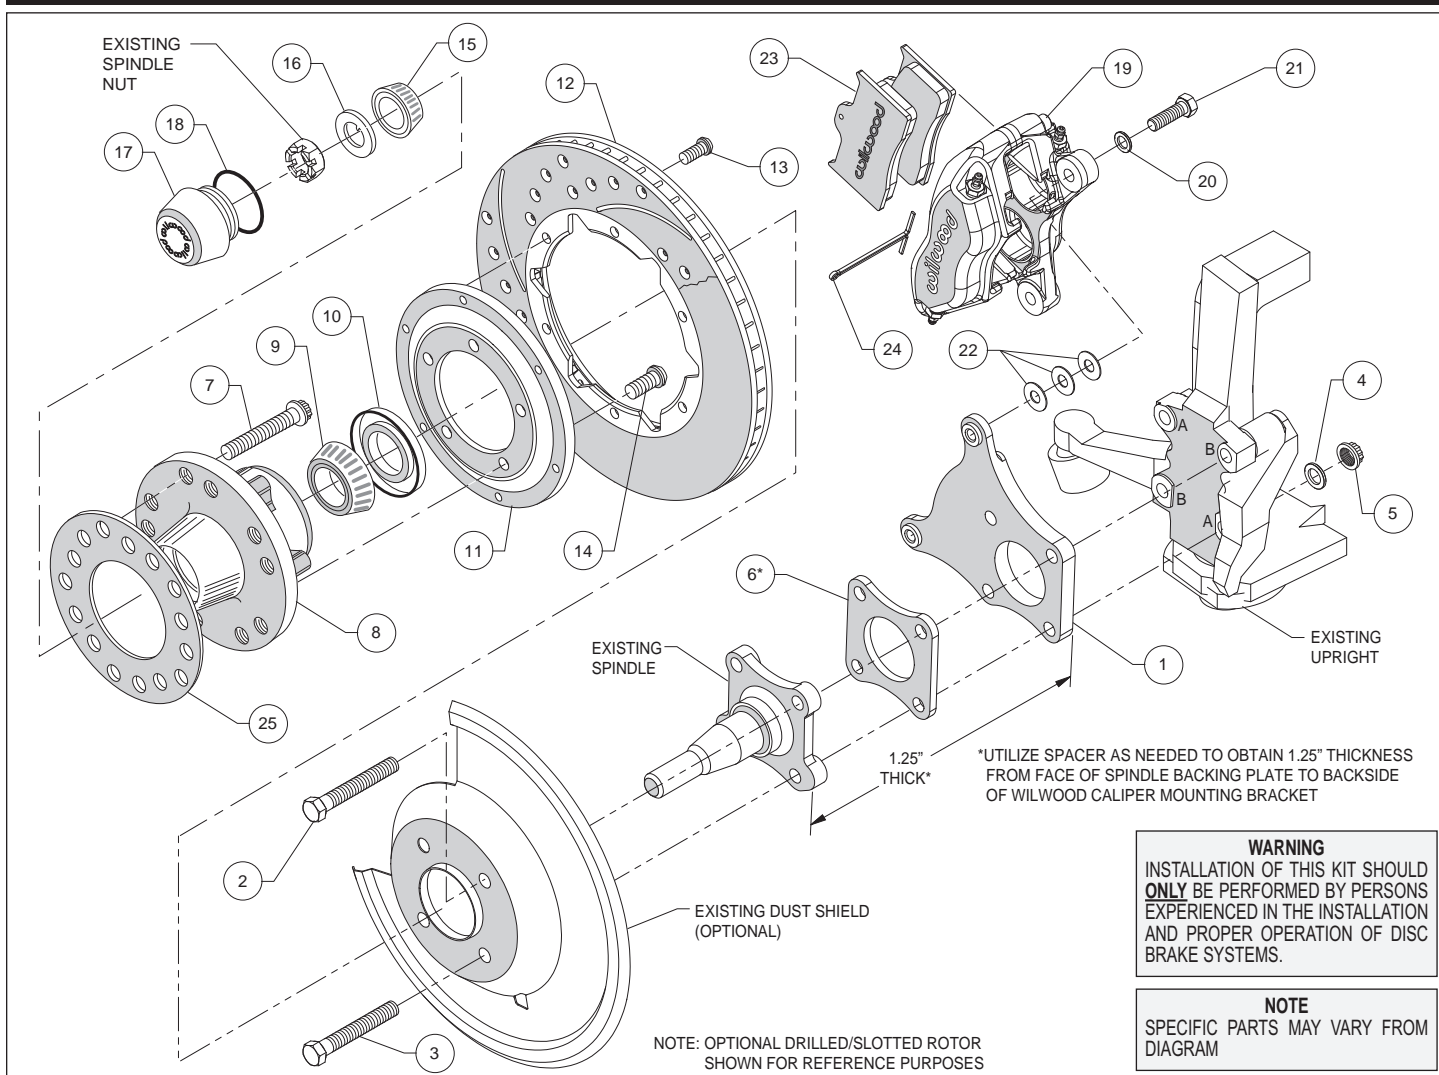
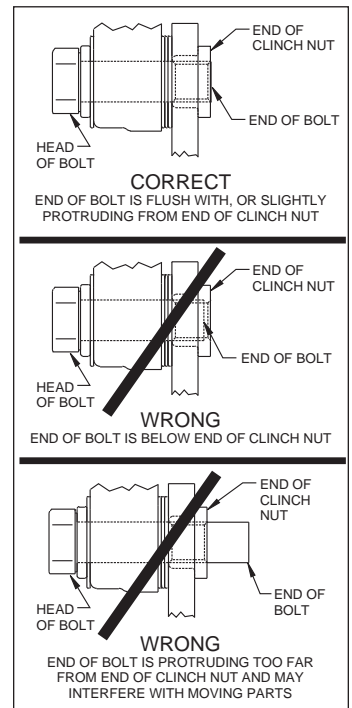

Figure 1. Typical Installation Configuration
Figure 3. Clinch Nut Engagement Diagram
Assembly Instructions (numbers in parenthesis refer to the parts list, on the preceding page and Figure 1): **CAUTION:** *All mounting bolts must fully engage clinch nuts.* Be sure to check that all bolts are either flush or protruding through flanged side of clinch nut after shimming, Figure 3.
- Align caliper mounting bracket (1) with the corresponding holes, between the upright and the spindle. Attach using bolts (2 and 3), washers (4), and locknuts (5) as shown in Figure 1 and Photo 1. Bolt (2) goes into holes on the upright designed with a "B" and bolt (3) goes into the "A" marked holes, Figure 1. Measure the thickness of the spindle and mounting bracket, Figure 1. If approximately 1.00", place spacer (6) between the spindle and mounting bracket to achieve the correct thickness. Temporarily tighten the mounting bolts. Ensure that the flanged heads of the clinch nuts in the bracket are facing outboard, Photo 1. **NOTE:** *The bracket must fit squarely against the mounting bosses on the upright.* Inspect for interference from casting irregularities, machining ridges, burrs, etc. Remove bolts one at a time, apply red *Loctite*® 271 to threads and torque to 47 ft-lbs.
- Install wheel studs (7) into the hub (8), Photo 2. Torque to 77 ft-lb. **NOTE:** *There are two five lug patterns in the hub (5 x 4.50 and 5 x 4.75).* Ensure the correct hub stud pattern is being used to fit the wheel application.
- Pack the large inner bearing cone (9) with high temperature disc brake bearing grease (available from your local auto parts store) and install into the backside of the hub (8), Photo 3.
- Install the grease seal (10) by pressing into the backside of the hub (8), flush with the end of the hub, Photo 3.
- Orient the rotor (12) and the rotor adapter (11) as shown in Figure 1 and Photo 4. Attach the rotor to the adapter using bolts (13). Using an alternating sequence, apply red *Loctite*® 271 to the threads, and torque to 25 ft-lb.
- Mount the adapter/rotor assembly (11/12) to the hub (8) using bolts (14), as shown in Figure 1 and Photo 5. Using an alternating sequence, apply red *Loctite*® 271 to the threads, and torque to 45 ft-lb.
- Screw dust cap (17) into hub (8), Photo 7. Friction created by the o-ring (18) on the dust cap keeps it from unscrewing. **NOTE:** The O.D. of the existing OEM spindle washer may be larger than the I.D. of the dust cap not allowing it to seat against the hub face. Therefore, use the spindle washer (16) supplied with the kit instead of the OEM washer.
- NOTE:** Please reference the caution statement at the beginning of the assembly instructions. Mount the caliper (19) onto the caliper mounting bracket (1) using bolts (21) and washers (20), as shown in Figure 1. Initially place three .035" thick shims (22) on each bolt between the caliper and the bracket, Photo 8. Temporarily tighten the mounting bolts and view the rotor (12) through the top opening of the caliper. The rotor should be centered in the caliper, Photo 9. If not, adjust by adding or subtracting shims between the bracket and the caliper. Always use the same amount of shims on each of the two mounting bolts. **NOTE:** The end of each bolt must be flush with or slightly protruding from the head of the clinch nut, as shown in Figure 3. If necessary place spare shims between washer (20) and caliper mounting ear to achieve the proper clinch nut engagement. Once the caliper alignment and clinch nut engagement are correct, remove the bolts one at a time, apply red *Loctite*® 271 to bolt threads, and torque to 40 ft-lb.